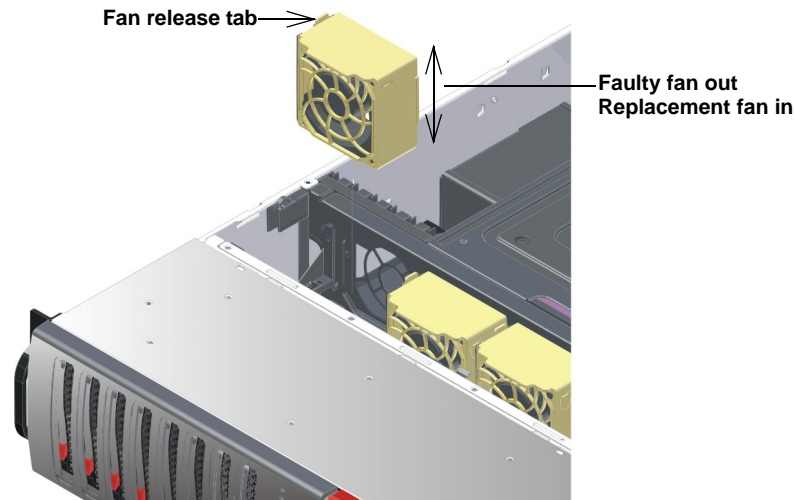

Figure 4-11 Replacing a DSS200 Front System Fan
3. Slide the new fan into the fan housing, as shown in Figure 4-11.